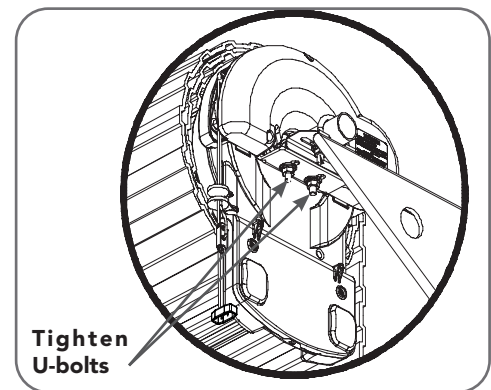

Fig. 6.5.4
- Refit the U-bolt and nuts and tighten (Fig 6.5.4).